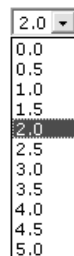

Figure 100. RGB Delay Drop Box
4. Click the **RGB delay** Drop box. A drop down scroll box appears (see figure 100).